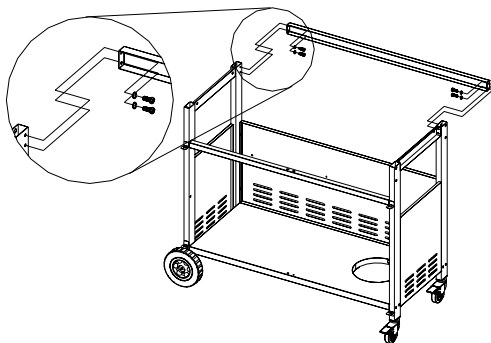

Figure 7
2. Attach the rear cart frame beam to grill cart using (4) 5/32 x 3/8" Phillips head screws and (4) 5/32" flat washers. (Fig.7)